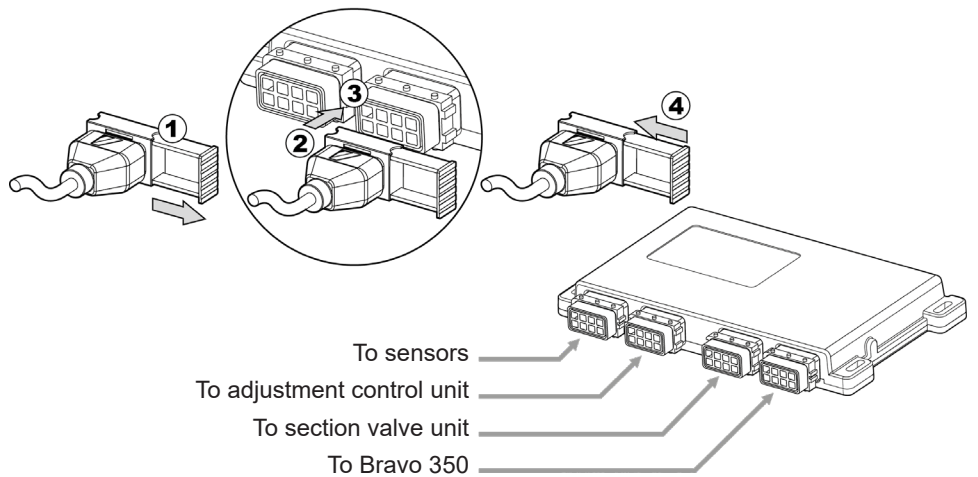

Fig. 18
- Open connector slide (1, Fig. 18).
- To position connector (2), insert it inside socket (3), then press: **during this operation, take care not to bend the electric contacts.**
- Close slide (4) until it locks in place.